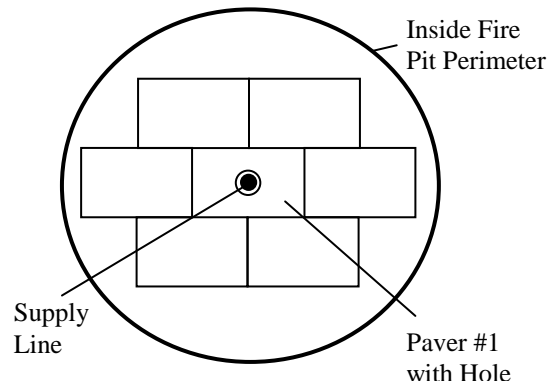
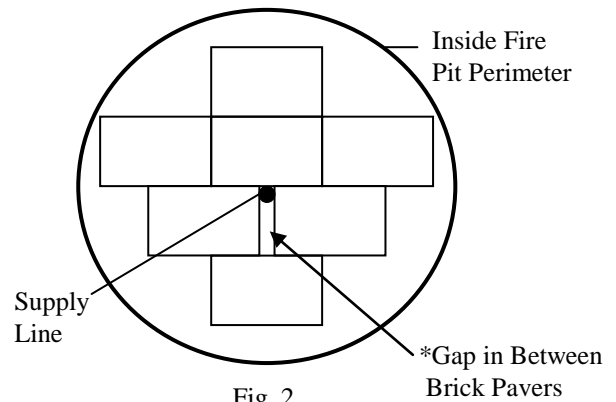
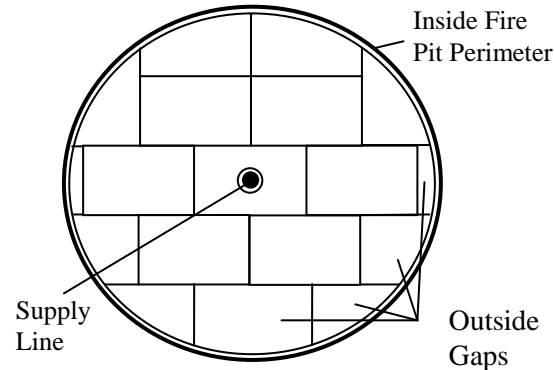

Fig. 1
Fig. 2
Fig. 3
- a. Drill hole in brick paver slightly larger than the supply line and install paver over supply line. See Fig.1.
- b. Follow brick pattern in Fig. 2.
- 4) Cut brick pavers to fill all outside gaps. See Fig. 3 and 4.
- a. If ventilation holes for the fire pit are located on the bottom of the enclosure wall, do not block- reference “Deck Insulation Kit – Install” for instructions. (Fig. 3)
<div style="display: flex; justify-content: space-between;"> <div style="width: 45%;"> <p>Figure 1: Copper or Metal Bowls/Enclosures- bottom venting required</p> </div> <div style="width: 45%;"> <p>Figure 2: Concrete Bowls/Enclosures- with side venting</p> </div> </div>
<div style="display: flex; justify-content: space-between;"> <div style="width: 45%;"> <p>Fire Bowls/Enclosures- Manufactured: Some copper, metal or concrete enclosures require venting- see manufacturer's instructions. *Copper or metal- for Basalt/Paver application: -With side venting see Figure 2. -With bottom venting requirement see Figure 1. -With open bottom and side venting see Figure 3. *Concrete (thickness > 1")- for Basalt application: -With side venting see Figure 2. -With bottom venting requirement see Figure 1. -With open bottom and side venting see Figure 3.</p> </div> <div style="width: 45%;"> <p>Figure 3: Concrete Bowls/Enclosures- with side venting and open bottom</p> </div> </div>